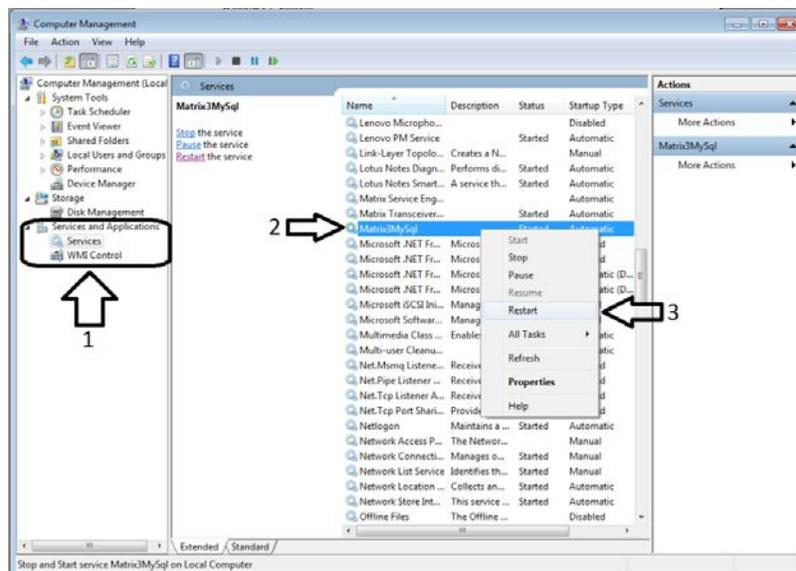

FIG. 246
- b. (Refer to FIG. 246) On the left hand side, expand Services and Applications (1), and click on Services. In the list to the right locate Matrix3MySQL (2) and right click on it. Select the restart option (3) from the pop up menu.